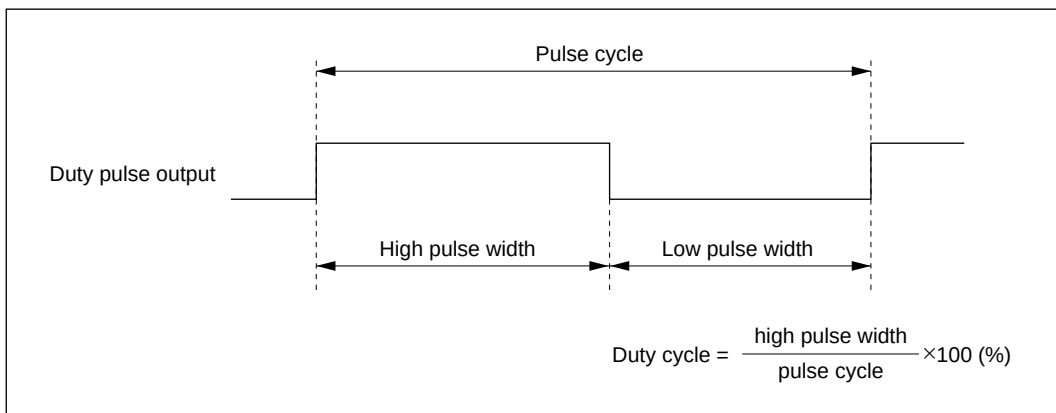

Figure 1 Duty Pulse Output Timing
1. This sample task outputs a variable-duty pulse by varying the high pulse width as shown in figure 1.